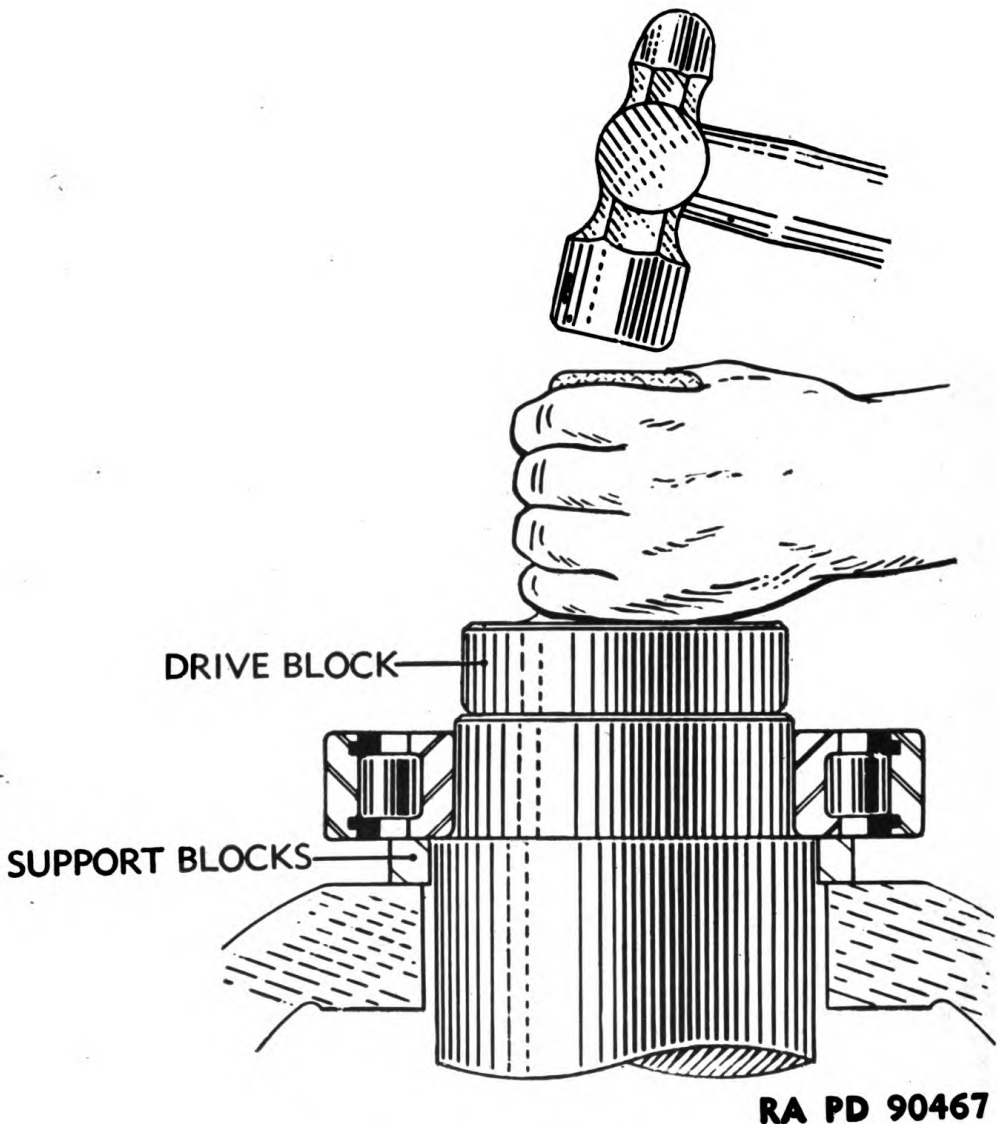

Figure 13. Driving with a drive block.
e. **DRIVE BLOCKS** (fig. 13). Drive blocks are one of the most convenient means of driving a bearing on a shaft or into a housing. They are simple to construct and are especially useful where the operation is repeated time after time. Drive blocks can be used for either outer ring, inner ring, or complete bearing assembly. They must be so con-
d. **DRIVE BLOCKS** (fig. 13). Drive blocks are preferable to pipes or tubing, but they cannot be used with very large bearings or where the back face of the inner ring is obstructed. The block face in contact with the bearing ring should be clean and square.